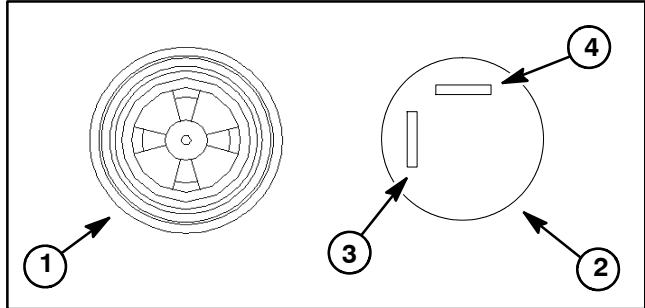

Figure 84
4. Correctly connect 12VDC source to the alarm terminals (Fig. 84).